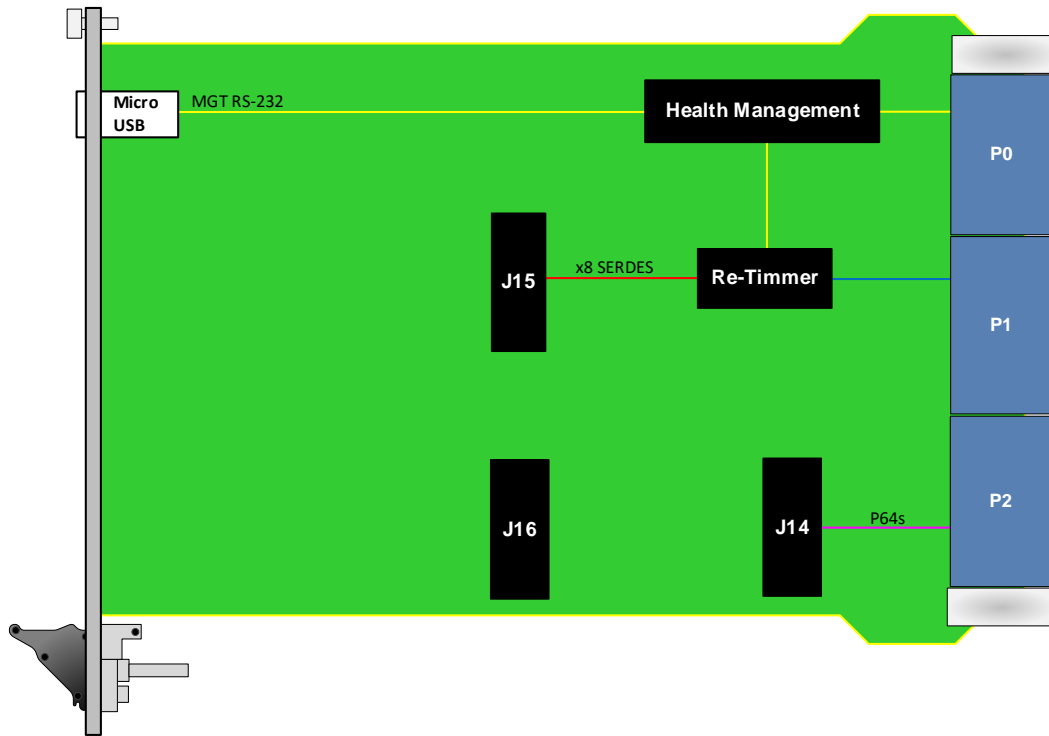

Figure 2: VPX102 Functional Block Diagram, Option D=0
- P1w9-X12d+P2w1-P64s (Figure 2)